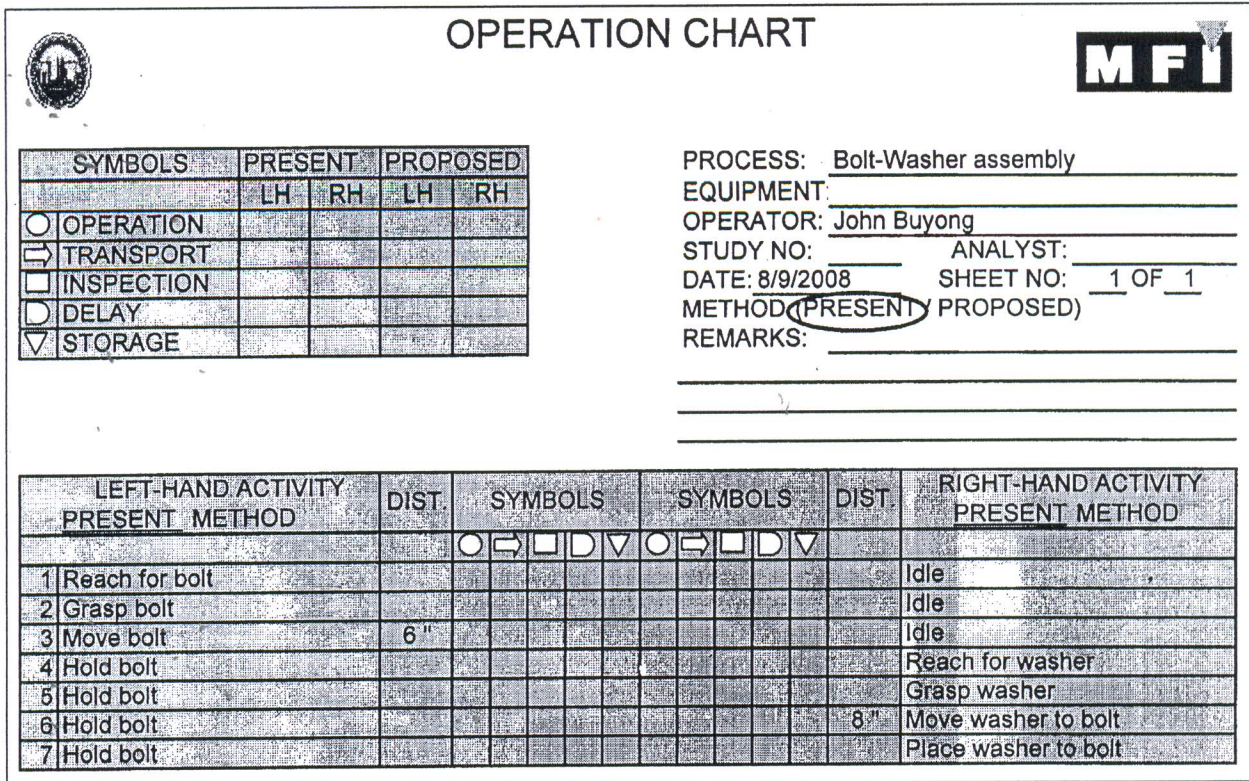

Figure 3: Operation Chart
- ii. Locate the necessary sequence of steps in Figure 3 (Operation Chart).
- iii. According to Figure 3 (Operation Chart), analyze the information below: